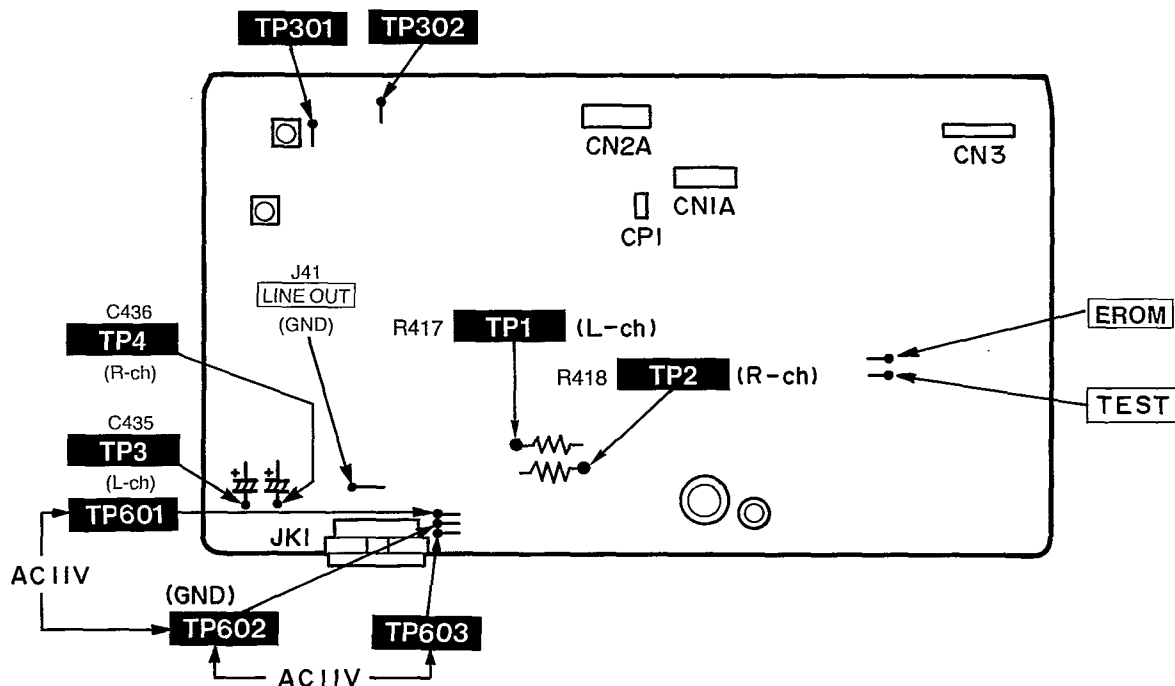

Fig. 1
Procedure 1→3→4→6 →10	 1. Turn the gear in the direction of arrow ①, and open the cassette holder. 2. Remove the cassette holder from the rib in the direction of arrow ②. 3. Open the cassette holder so that the rib of the cassette holder is located to the position as shown in Fig.1., and then pull out it in the direction of arrow ③.
1. Connect an AF oscillator to the line inputs, TP1 (L channel) and TP2 (R channel) (see Fig. 1).
2. Connect an AC voltmeter to the line outputs, TP3 (L channel) and TP4 (R channel) (see Fig. 1).